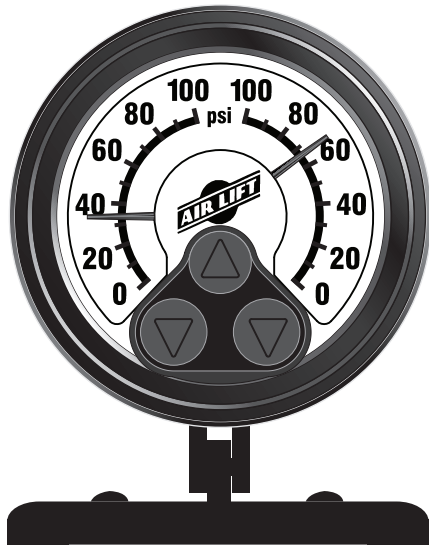

fig. 4
1. Install the gauge pod (figs. 4, 5 & 6). Select a convenient mounting location that has a sturdy rigid surface. The bottom edge of the dash on either side of the steering wheel is a good location. Attach the gauge pod to the selected location with the black self-tapping screws.